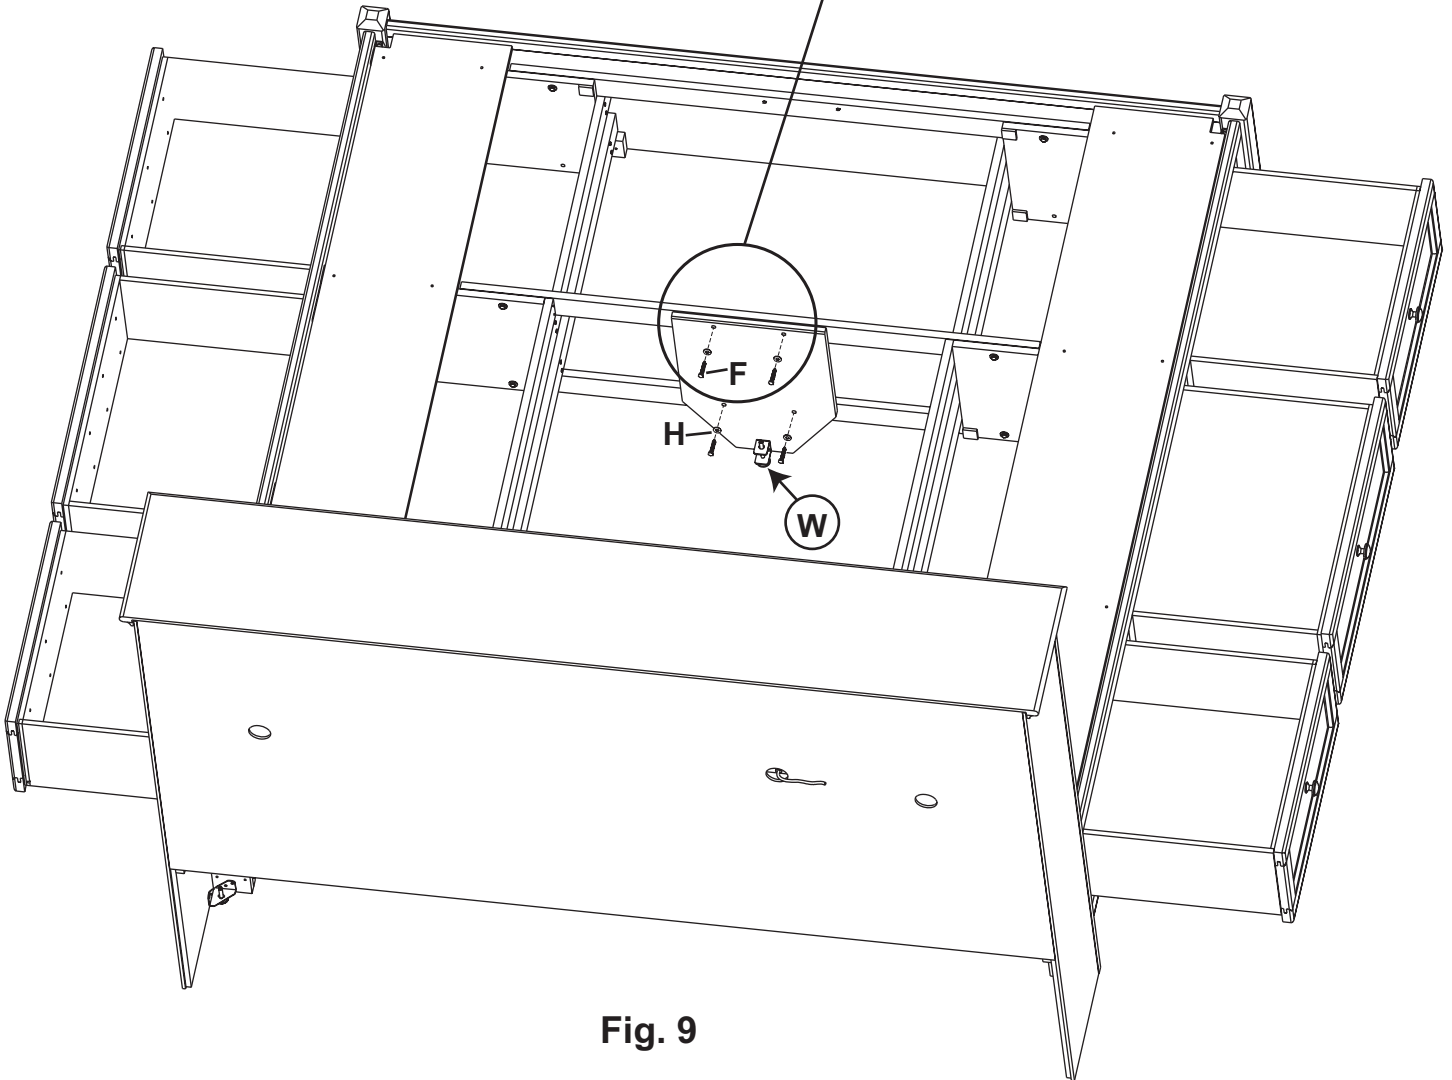

Fig. 9
9. Facing the Footboard, place a Foot Assembly (Ua) on the **inside** of the second set of Trestles and attach with four Washers (H) and four 1/4" x 1-3/4" Hex Bolts (F). See Figures 9 and 9a.